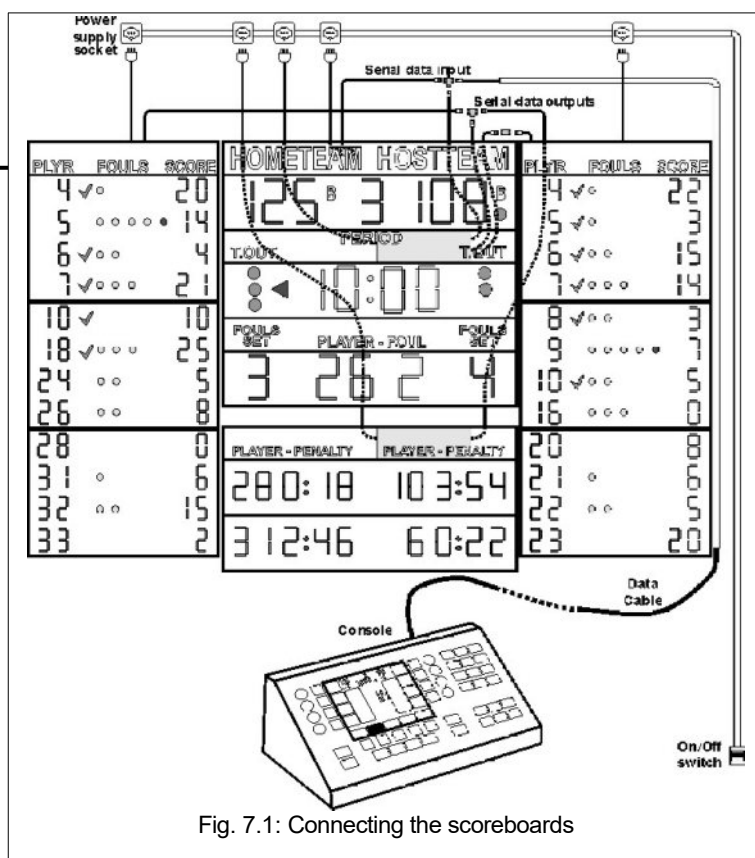

Fig. 7.1: Connecting the scoreboards
3. To connect to other nearby FS series scoreboards, for example side scoreboards displaying player fouls/scores or the central scoreboards displaying penalty times (see the example in Fig. 7.1), connect the remaining 1 m extension cables to the "SERIAL DATA OUTPUT" port, as indicated in step 2 above.
Each scoreboard comes with a power cord and plug. To turn the scoreboard on and off easily, we suggest that a power supply socket be positioned just above the board (see example in Fig. 7.1).
Fig. 7.1 shows a configuration of the main scoreboard, the side scoreboards displaying player fouls/scores, and the lower scoreboard displaying penalty times.
4. The other FS series scoreboard panels, such as the side scoreboards for player fouls/scores and the lower scoreboards for penalty times, can be connected to the other two serial data cables of the "SERIAL_DATA OUTPUT" port by using the adapters provided (see Fig. 7.1).